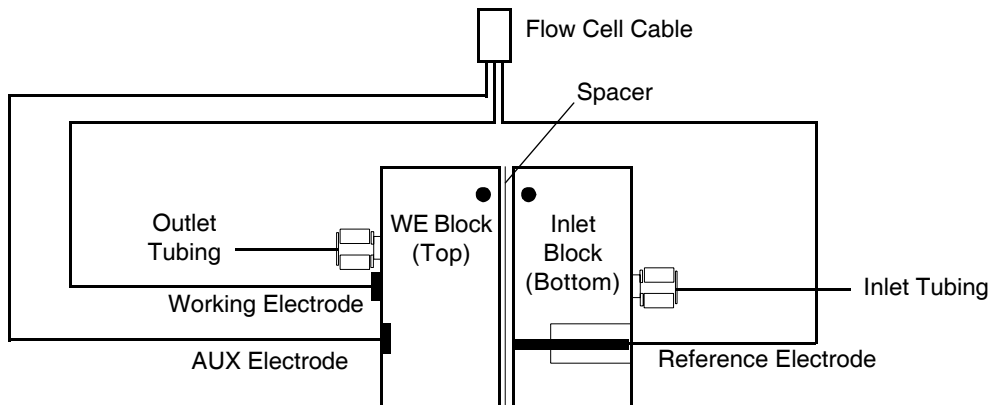

Figure 4-1 Disconnecting the Flow Cell
3. Open the door, then disconnect the following from the flow cell (Figure 4-1):